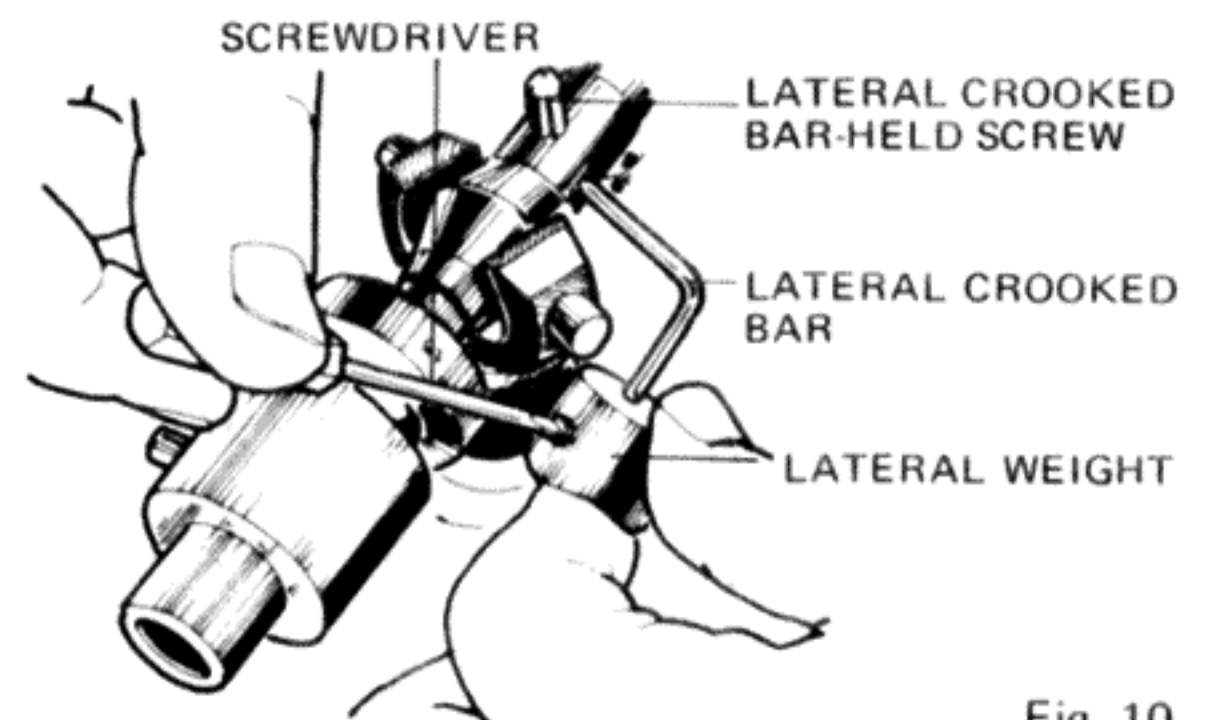

Fig. 10
2. Slip the lateral weight stored in accessory box into the lateral crooked bar, then tighten the fitting screw of lateral weight (Fig. 10).